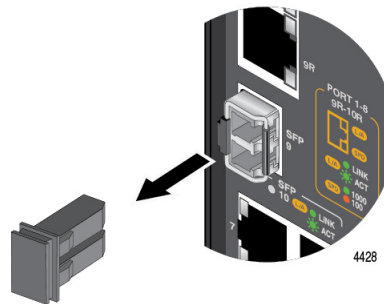

Figure 23. Remove Dust Cover from SFP Transceiver
4. Remove the dust cover from the transceiver. Refer to Figure 23.